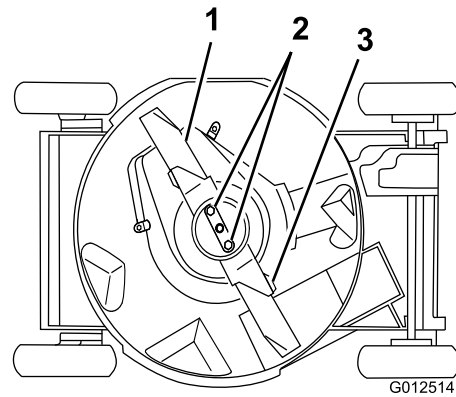

Figure 32
4. Tip the lawn mower onto its **right** side (Figure 32).
Grasp the end of the blade using a rag or a thickly padded glove. Remove the blade nuts, the accelerator, and the blade (Figure 32).
5. Remove 2 blade nuts, the accelerator, and the blade (Figure 32).